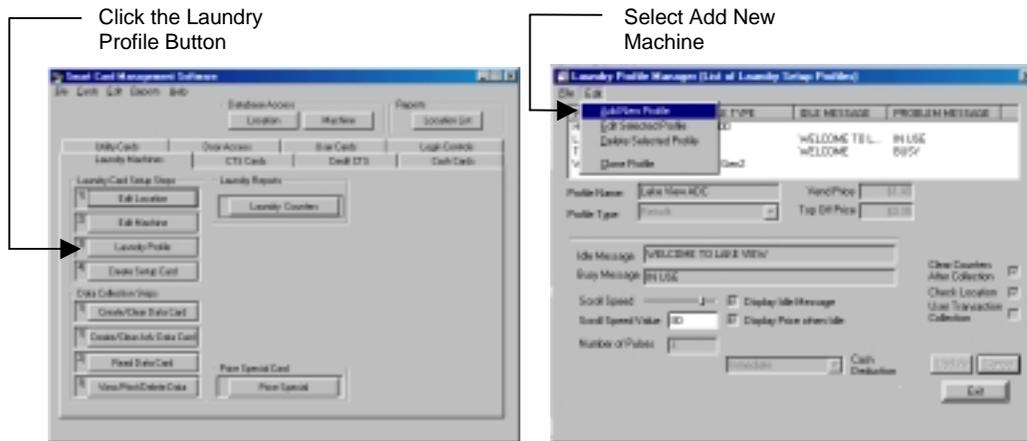

Figure 8.9 Creating a Laundry Profile
1. In the Laundry Machine tab, click the Laundry Profile button (Figure 8.9).